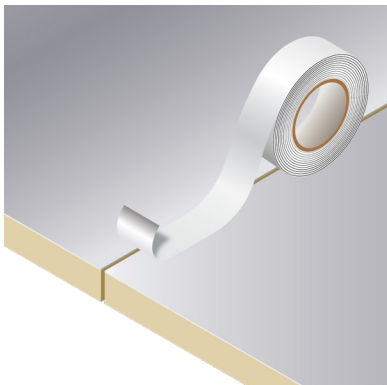

Figure 2.
2. Center **Thermax™ White Foil Tape** or **Thermax™ Aluminum Foil Tape** over dry, clean edge joint and apply tape (Figure 2).